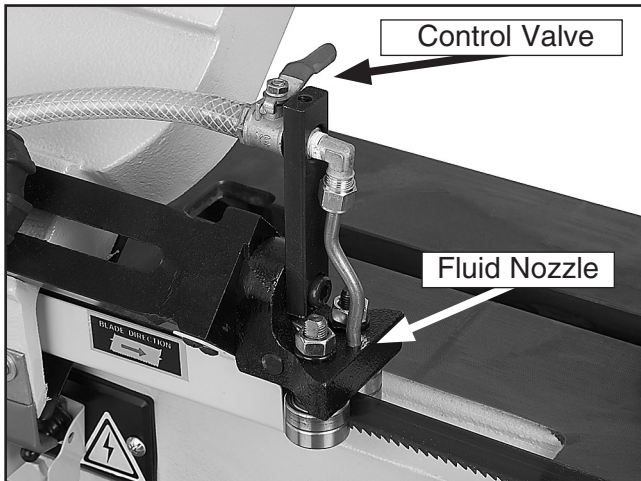

Figure 29. Coolant control valve.
- Adjust the valve on the coolant hose to control the flow of coolant (see **Figure 29**). Make sure that the pressure is not so high that coolant spills on the floor and creates a slipping hazard.